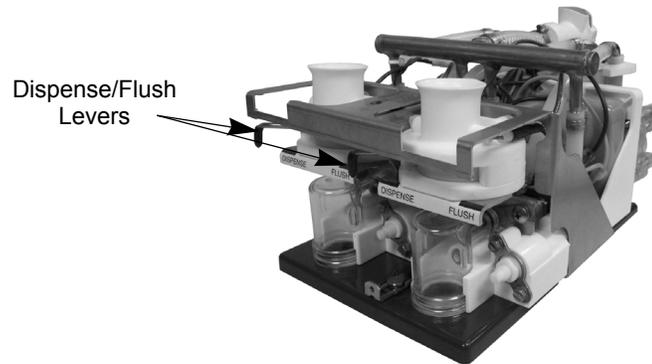

Figure 3. Dispense/Flush Lever Location
1. Open the cabinet door and move the valve handle from the *Dispense* to *Flush* position, see Figure 3.